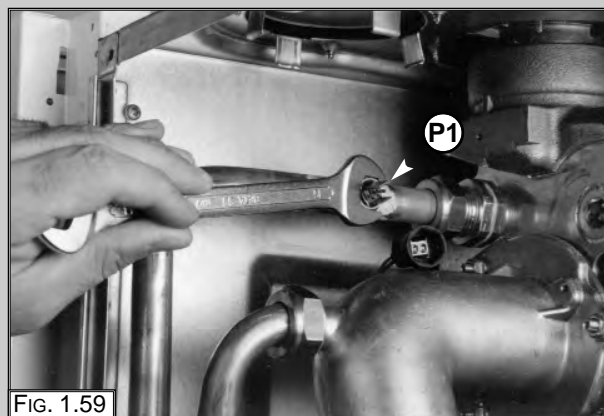

FIG. 1.59
2. Unscrew and remove the C.H. return temperature probe "P1" (Fig. 1.59).